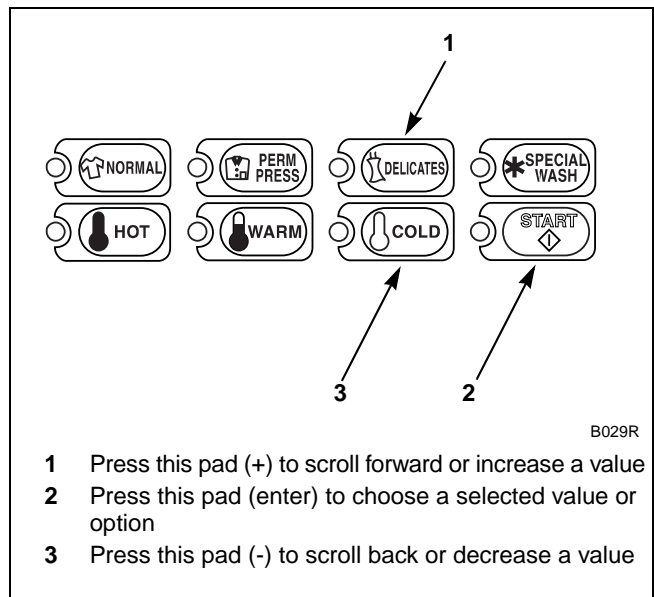

Figure 62
5. Press the DELICATES (+) or the COLD (-) keypad to increase or decrease the current extract value displayed in the VFD to the desired extract value as found in *Table 2*. Refer to *Figure 62*.